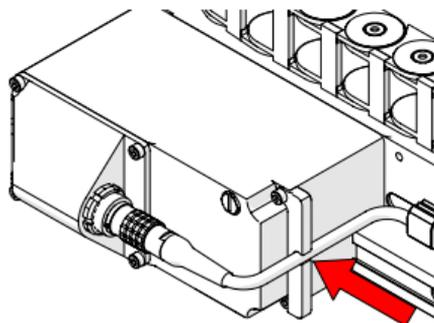

Fig. 42 - Press raster arm cable into cable bracket
2. Press the raster arm cable into the cable bracket on the side of the raster arm encoder housing (Fig. 42).